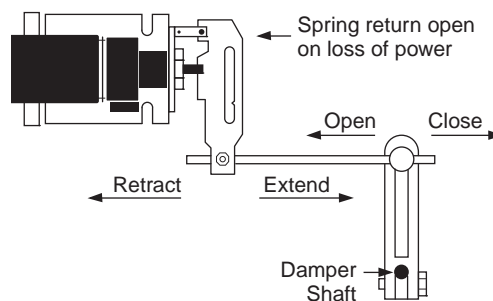
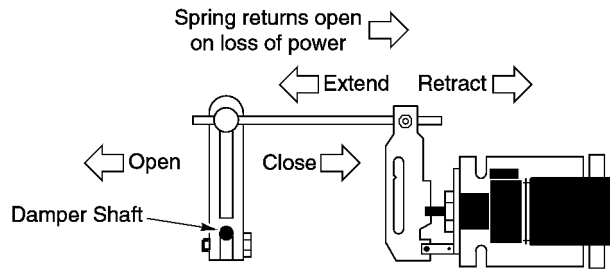

Figure-13 Dampers Open When Actuator Retracts (Spring Return Opens on Power Loss).
Figure-14 Dampers Open When Actuator Extends (Spring Return Closes on Power Loss).
- a. Determine, from the system requirements, if the damper should spring-return to the open position (refer to Figure-13) or closed position (refer to Figure-14) whenever power is lost to the actuator. An actuator is normally linked so as to retract (spring-return) to the dampers fully open position (heat position).
4. Mount a ball joint connector in the slot on the damper crank arm. To achieve 90° of damper rotation, position the connector 1-1/2" (38 mm) from the centerline of the shaft hole on the crank arm. For 60° of damper rotation, position the connector 2" (50 mm) from the shaft hole centerline. Typically, 60° to 70° of rotation (maximum is 90°) is sufficient to permit almost maximum air flow through the dampers. Refer to Figure-13.
5. Rotate the damper to its open position. Install and secure the damper crank arm (with ball joint connector) to the damper shaft, positioning the crank arm as follows (refer to Figure-13):